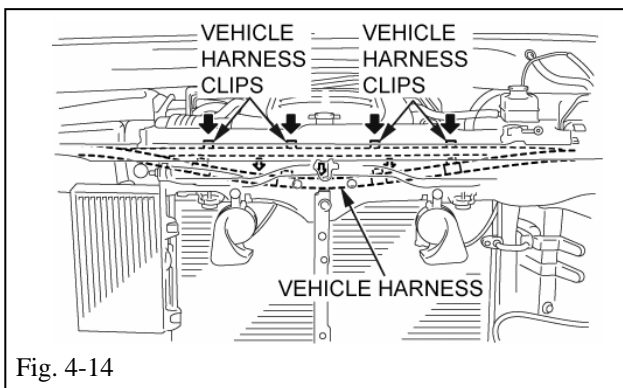

Fig. 4-14
(o) Release the vehicle wire harness four (4) retaining clips (in front of the radiator). (Fig. 4-14)